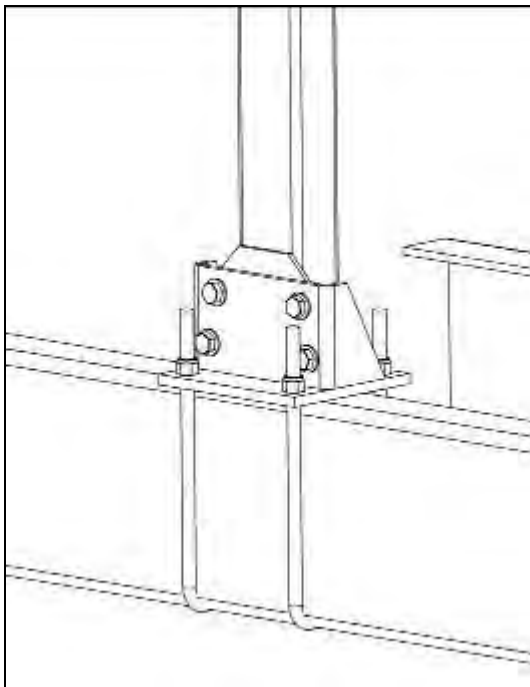

Figure 1
- U-bolt mount which clamps the tower down to the frame (see figure 1)